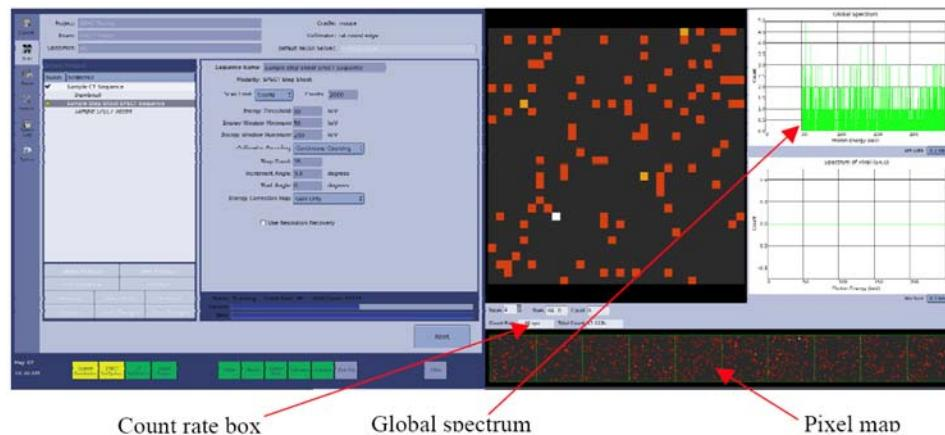

Figure 7-63
- 2.) Observe the Console's right hand screen (Figure 7-63). Distribution from 60 KeV to 250 KeV should be even and all 10 panels should light up equally. Note the minimum and maximum values in the Count field and record the values on the Acceptance Form or Worksheet (Appendix). The maximum value should be less than or equal to 150 counts per second.